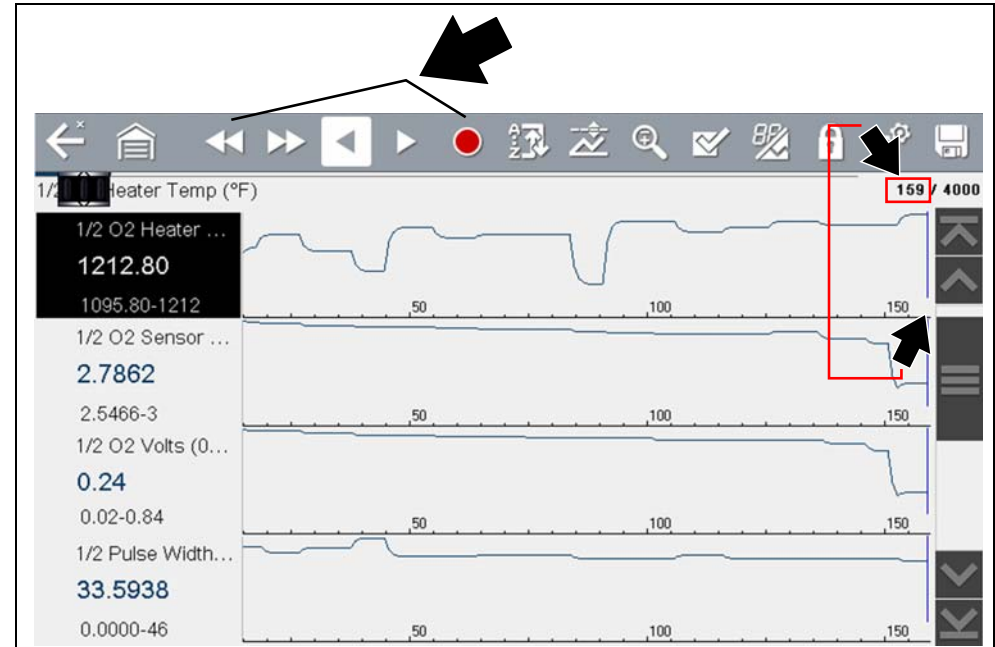

Figure 6-32
- Review control icons are displayed in the toolbar (Figure 6-32). Use the control icons to accurately move through the data and position the blue cursor.
- The blue (vertical cursor) (Figure 6-32) indicates your position in the data and is denoted by the current position value in the counter display. This cursor displays in all PIDs.